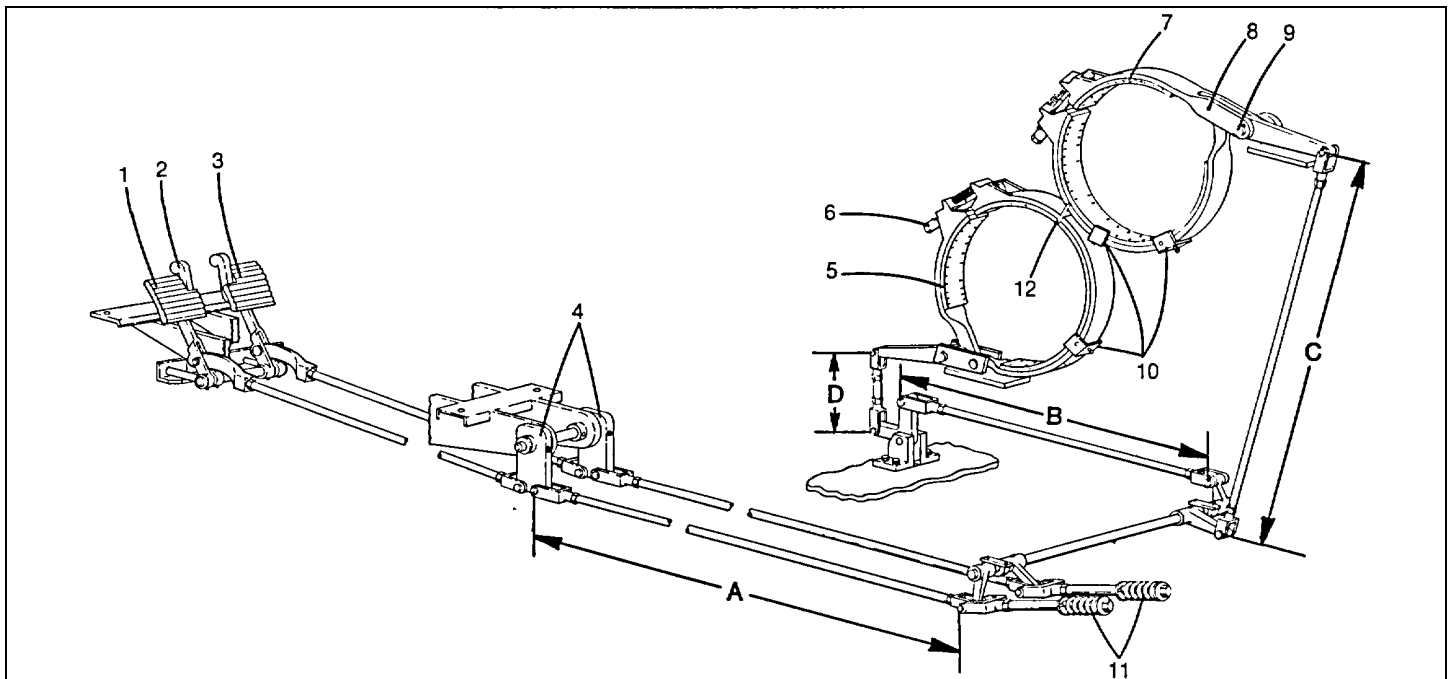

Fig. 4-7
4-13 Front And Rear Drum Brake Adjustment(Fig. 4-7)
(4) Bell Crank
(8) Live End Pins
(12) Band Centering Bracket
- (c) brake band drag when powering down a load. The brake band should be centered with the brake drum. The middle area of each band is centered with the drum by means of a centering bracket (item 12 in Fig. 4-7). The rest of each band is centered with the brake drum by shimming between the dead end lug, and the dead end mounting bracket on the frame. The following shims are available for use at this point:
- (1) 1D14410 Ga. (3.41mm)
- (2) 1D14522 Ga. (.759mm)
- (3) 1J21816 Ga. (1.51mm)